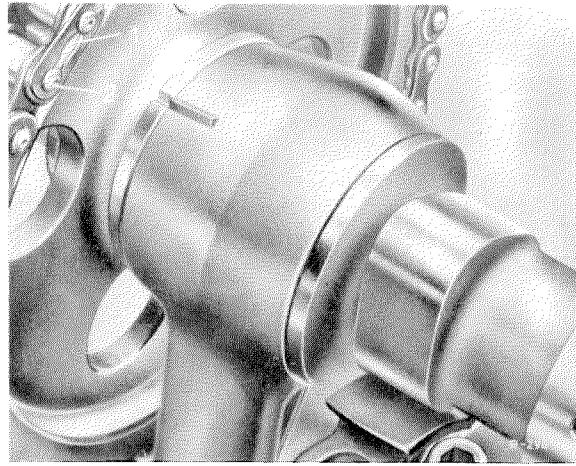

Figure 05-27/2
**Insert the connector link (2) from front rearwards. Insert the spring lock (1) with the closed end showing in direction of rotation (see Figure 05-27/2).**